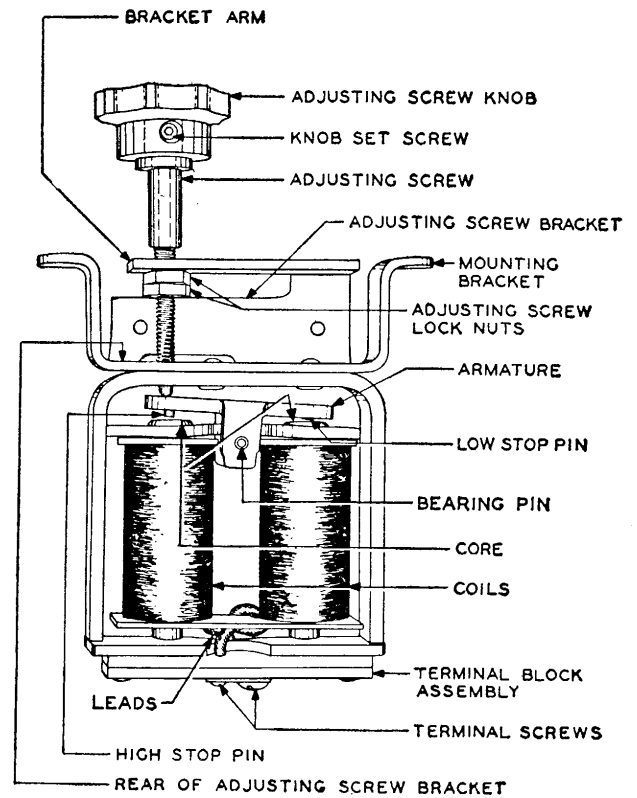

Fig. 2—8-type Buzzer Not Equipped With an Adjusting Screw Arm
- \*2.06 **Position of Adjusting Screw Locknuts (Buzzers Not Equipped With an Adjusting Screw Arm):** Fig. 2—With the adjusting screw in its outermost position and with the armature operated manually, the low stop pin shall be in contact with the core and the tip of the adjusting screw shall just touch the armature.